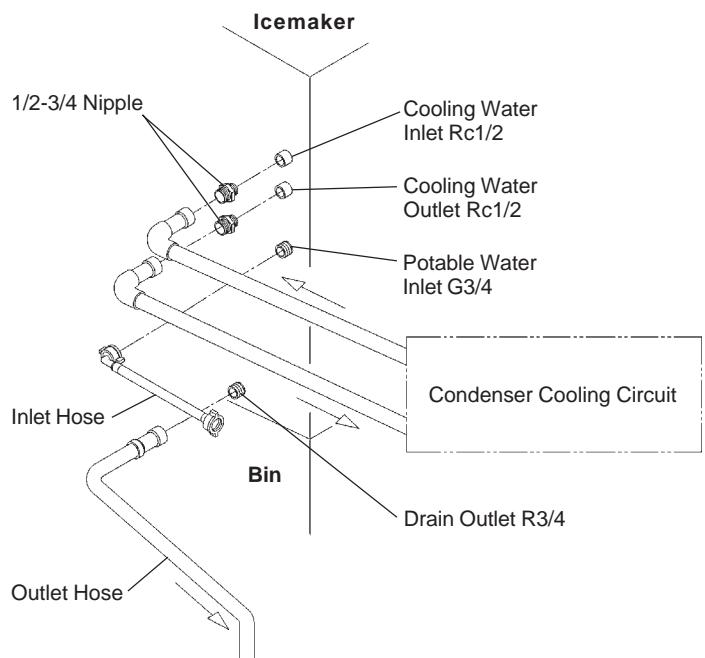

Fig. 9
[a] Standard connections according to WRC regulations in U.K. (Fig. 9 and 10)
- 3) Attach grey flexible outlet hose (accessory) to the R3/4 fitting on the rear of the icemaker as indicated (Fig. 9), confirming fitment of
- 5) Connect the Condenser cooling circuit to the free end of 1/2-3/4 nipples as indicated (Fig. 9) using a suitable rigid type pipe. P.T.F.E. tape and/or a suitable sealing compound should be used to obtain a leak free joint.